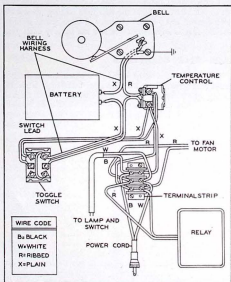

FIGURE 4
4. A new bell-wiring harness and a new switch lead wire used to connect the switch. See Figure 4.
2. Remove and discard the bell-wiring harness. See Figure 4.
5. Remove all leads from the toggle switch. See Figure 4.
2. Remove the alarm lead from the control (this lead is part of the bell-wiring harness). See Figure 4.
1. Use the switch lead, shown in Figure 4, to connect the standard control to the terminal strip.
2. Install wiring harness, Part Number 6258-4, in place of the bell-wiring harness shown in Figure 4.